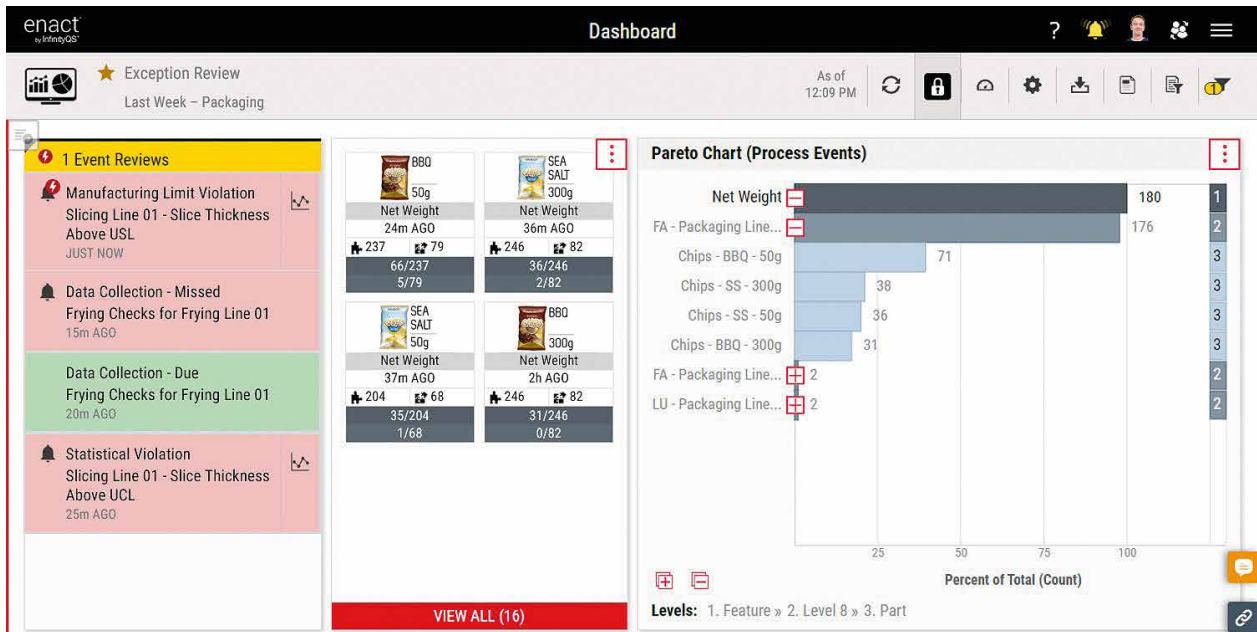

Figure 1. From their dashboards, operators can readily see if they have a queue of events in need of attention.
**Figure 1:** MassHunter Classifier software has easy-to-understand analysis and reporting. Start a new project (A) and enter the method and samples to test (user interface not shown). All the samples submitted appear in the Sample Table (B) along with their identification and confidence scores. 2D or 3D PCA plots are displayed, showing all the model samples, and the selected unknown sample is plotted as a black diamond (C). Finally, individual features are compared to the model in the Compounds Table (D), indicating whether their abundance is within the range for the predicted class (green) or not (white). PDF reports are generated by selecting Generate Report (A).
When using the model in a routine manner to run unknown samples, it is important to run the same acquisition method and the same feature extraction steps. It is easy to give an analyst the acquisition method and analysis model and have them use a routine software, like MassHunter Classifier, to produce the adulteration results. There is no need for an analyst to do any statistics, feature extraction, model building, or plot interpretation; the answer is given only by the class label and confidence or distance value reported in the software (see Figure 1).
From their dashboards, operators can readily see if they have a queue of events in need of attention (see Figure 1, above). Defined workflows then take the guesswork out of problem resolution with prescribed actions that walk them through the necessary remedial steps, ensuring consistency in the proper handling of issues. Additional documentation noted on each event can also provide contextual information to prevent reoccurrences.